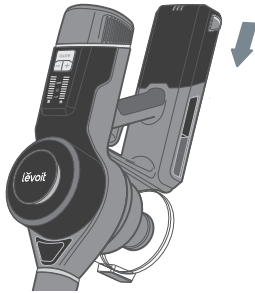

Figure 2.1
2. To reinstall, slide the battery into the slot in the vacuum body [Figure 2.1]. There will be a clicking sound when the battery is properly installed.